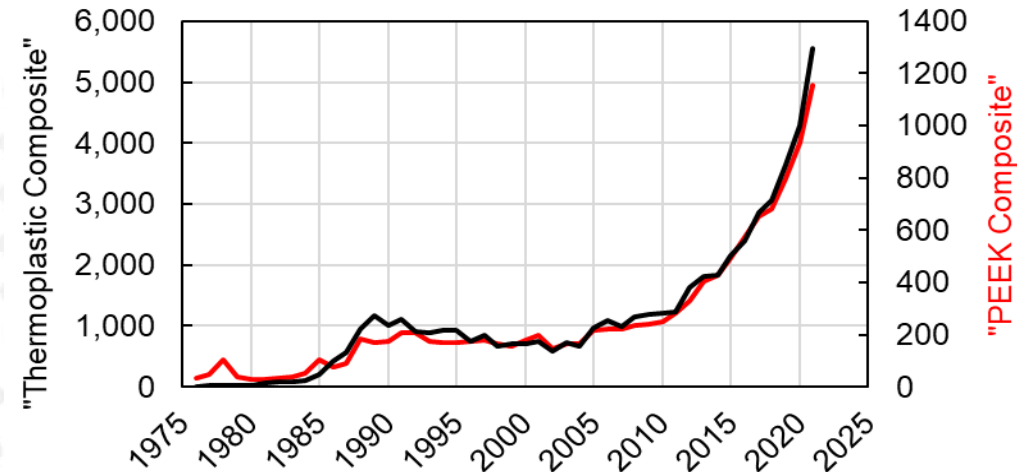

Fig.1: Annual publications on “thermoplastic composites” and “PEEK composites”.
- History of thermoplastics is short (but growing!), Fig. 1.